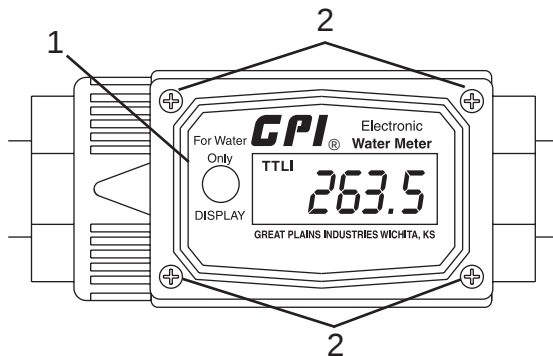

Figure 124
1. Remove four screws (Figure 124, Item 2) from the face of the meter and remove the faceplate (Figure 124, Item 1) from the meter body.